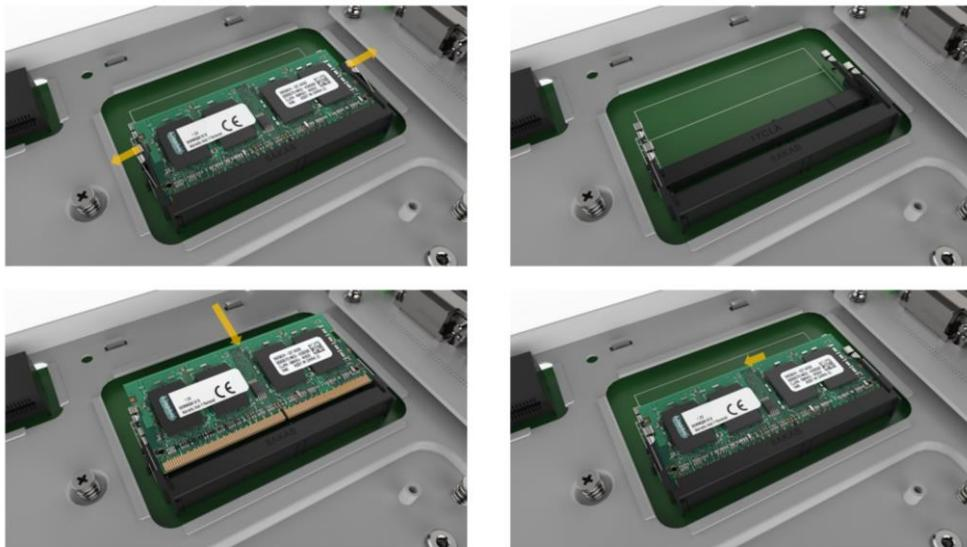

Figure 3-6: Memory Installation
Step 3: Once aligned, press down until the memory module is properly seated and the two handles fully clip into place (**Figure 3-6**)